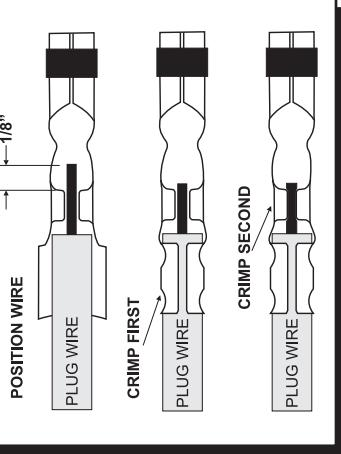

Figure 5 Crimping a Dual Crimp Terminal.
- After stripping the sleeve, position the wire in the terminal so the insulation protrudes about 1/8" beyond the insulation crimp tabs and the conductor extends about 1/8" past the conductor crimp tabs (Figure 5).